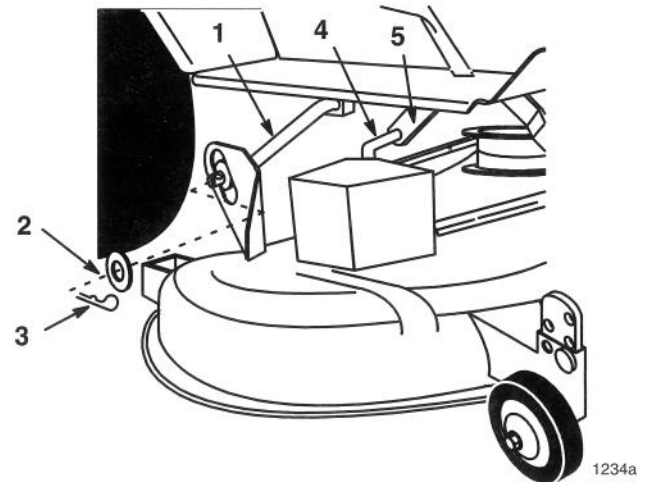

Figure 13
5. Remove hairpin cotter and washer from rear link and remove from attachment lift (Fig. 13).
6. Remove hairpin cotters and washers from rear lift arms (Fig. 13).
7. Slide deck right, off rear lift arms (Fig. 13).